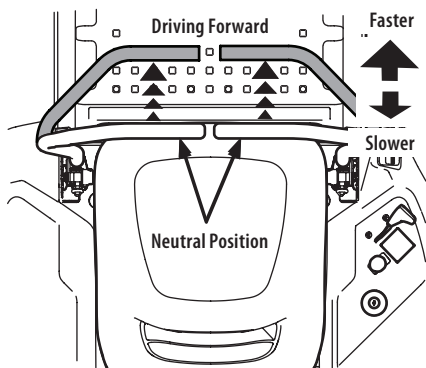

Figure 28
1. Slowly and evenly move both lapbar drive control levers forward. The tractor will start to move forward (Figure 28).